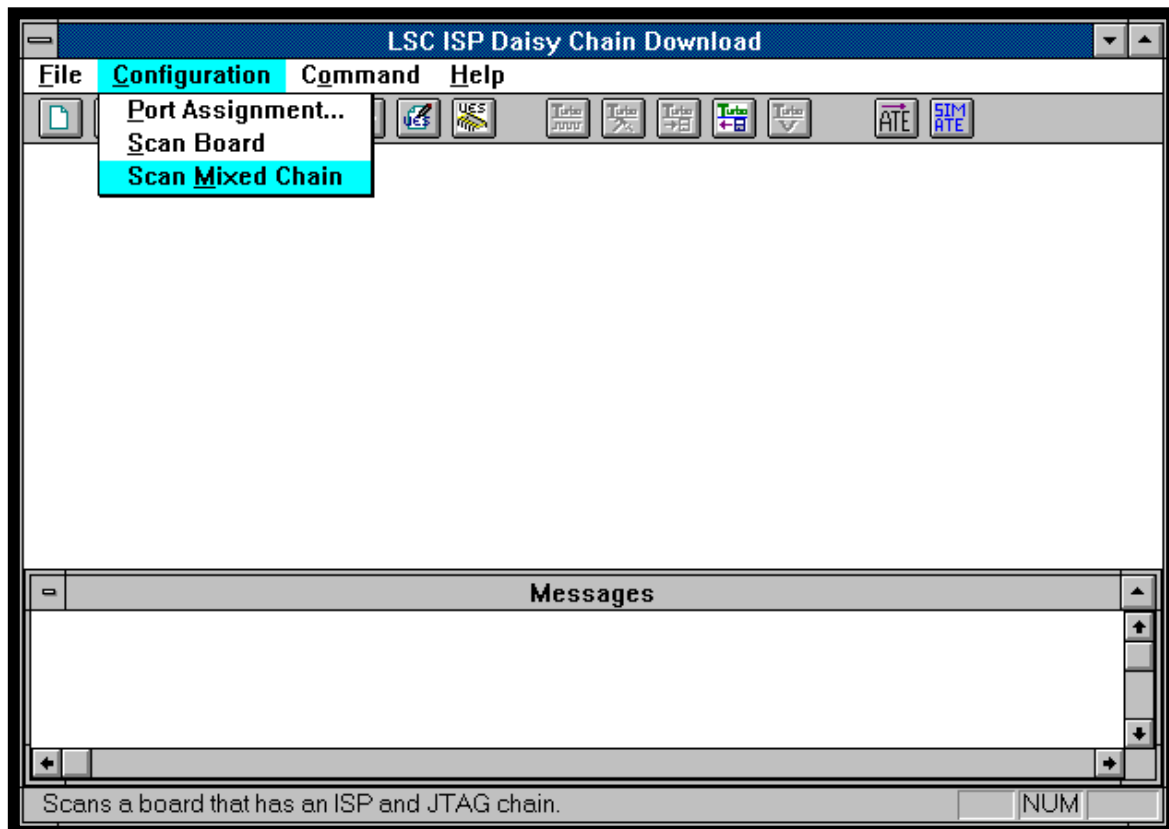

Figure 3-31. **Configuration** ⇒ **Scan Mixed Chain** Menu Option
1. Select **Configuration** ⇒ **Scan Mixed Chain** (Figure 3-31). The ispDCD software detects the presence of JTAG devices and the Scan Board Configuration Setup window appears (Figure 3-31). A mixed chain marker in the list separates the ISP-programmable devices from JTAG devices.